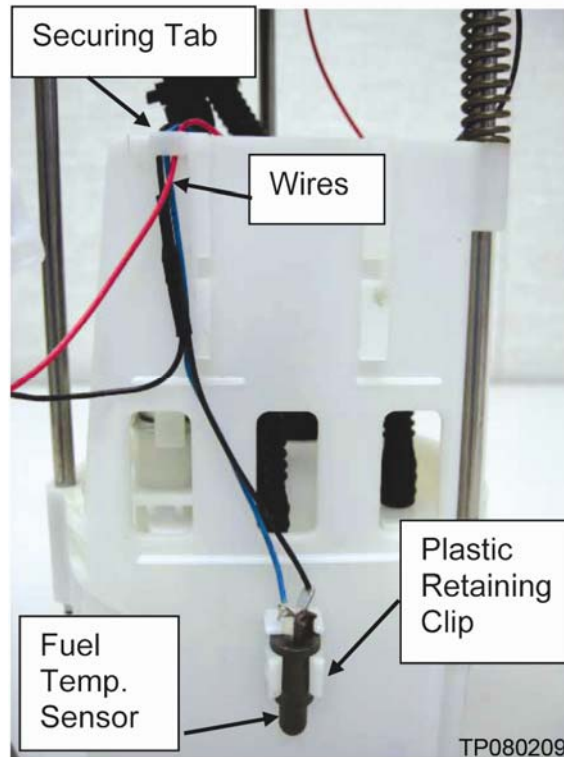

Figure 9
- c. Remove the brown fuel Temperature Sensor from the white Plastic Retaining Clip (see Figure 9).
- d. Remove the wires from the Securing Tab (see Figure 9).